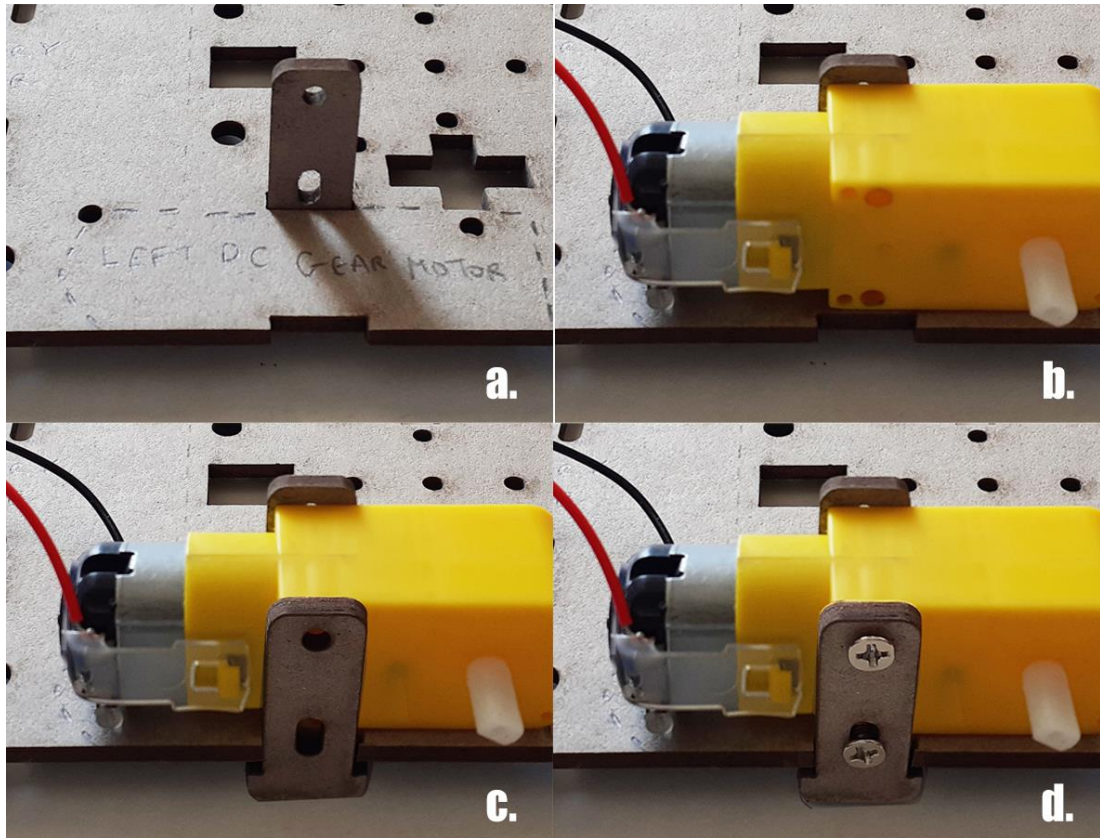

Figure 4: Assembling the DC gear motor by using fasteners, screws and nuts.
- **Countersunk** (*Figure 4*) M3 screws of 30mm length (*Figure 3a*)